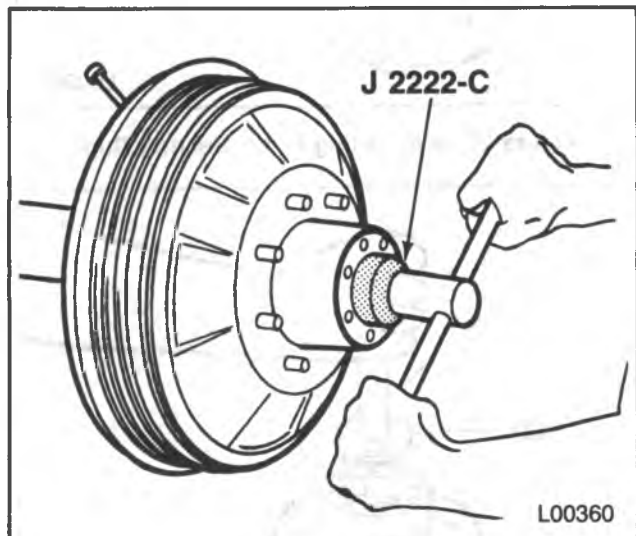

Figure 25 — Removing or Installing Bearing Adjusting Nut
2. Axle shaft (52). Refer to "Axle Shaft Replacement" in this section.
3. Nut (40) using J 2222-C (figure 25), or retaining ring (56).
4. Lock (41) or key (57).
5. Adjusting nut (42 or 58). Refer to figure 25.
6. Washer (43).
- Apply a light coat of high melting point EP bearing lubricant to the contact surfaces and the outside of the axle tube (63). Refer to MAINTENANCE AND LUBRICATION (SEC. 0B).
2. Washer (43)
3. Adjusting nut (42 or 58). Refer to figure 25.
- Adjusting nut (42 or 58) to "Specifications" at the end of this section while turning the hub (49).
- Bend the tang to the flat of the adjusting nut (42) or insert the key (57).
5. Nut (40) or retaining ring (46). Refer to figure 25.